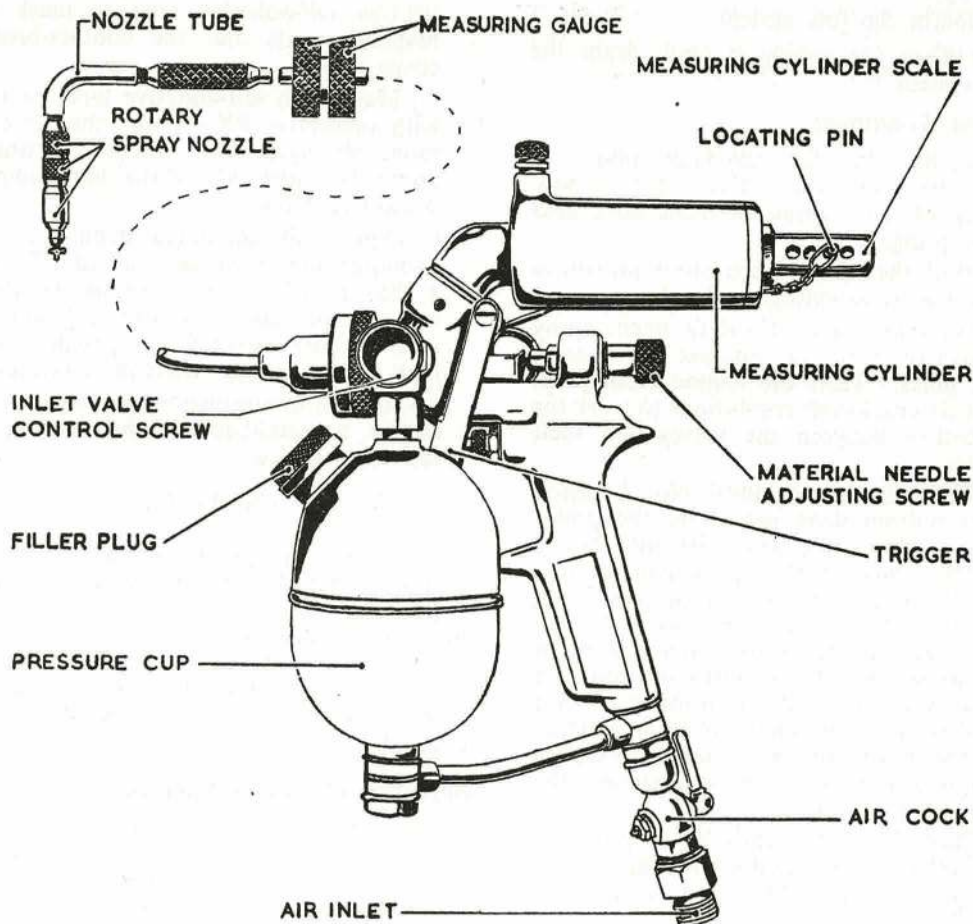

FIG. 1 CORROSION-INHIBITOR PISTOL
16. The corrosion inhibitor pistol (Fig. 1) is designed to spray measured quantities of corrosion inhibitor fluid in such a manner that an even film is deposited where required. The pistol is used for all spraying operations, but with a change of nozzle to suit individual requirements and the material being used.
special rotary nozzle (Fig. 1) is provided for inhibiting piston engine cylinder bores. Thus, when correctly adjusted and using this type of nozzle, a definite amount of inhibitor can be injected into a cylinder to give an even film over the cylinder walls, combustion head and piston crown. This nozzle should not be used for general inhibiting.